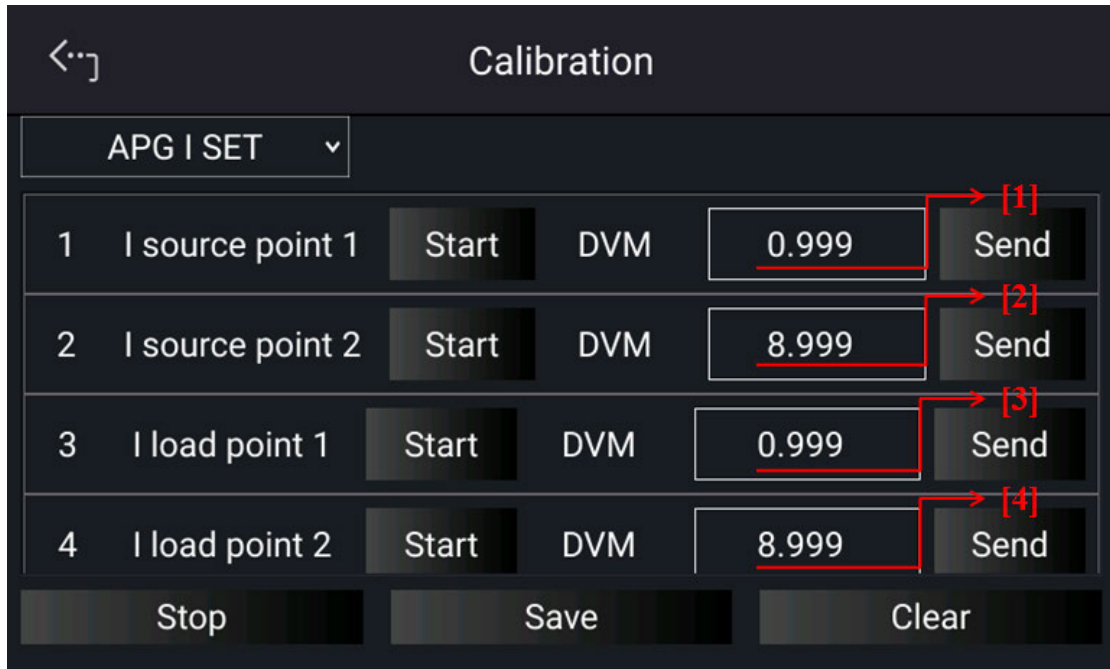

Figure 3-95
4. It will request you to input approx. 1V voltage signal (TP108). Adjust the Power Supply to $1V \pm 0.1V$ and use DVM1 to measure the Power Supply. Enter the measured voltage to position [1] and tap “SEND” to confirm as Figure 3-95 shows.
5. Next, tap “START” next to I source point 2 to calibrate the second point current. Adjust the Power Supply to $9V \pm 0.1V$ and use DVM1 to measure the Power Supply. Enter the measured voltage to position [2] and tap “SEND” to confirm as Figure 3-95 shows.
6. Tap “START” next to I load point 1 to calibrate the first point positive current. It will request you to input approx. 1V voltage signal (TP109). Adjust the Power Supply to $1V \pm 0.1V$ and use DVM2 to measure the Power Supply. Enter the measured voltage to position [3] and tap “SEND” to confirm as Figure 3-95 shows.
7. Next, tap “START” next to I load point 2 to calibrate the second point negative current. Adjust the Power Supply to $9V \pm 0.1V$ and use DVM2 to measure the Power Supply. Enter the measured voltage to position [4] and tap “SEND” to confirm as Figure 3-95 shows.
8. When the APG current calibrations are done, tap “STOP” to exit the calibration procedure. To save the calibration data, tap “SAVE”, and tap “CLEAR” to delete the calibration parameters if there is no need to save them as Figure 3-95 shows.